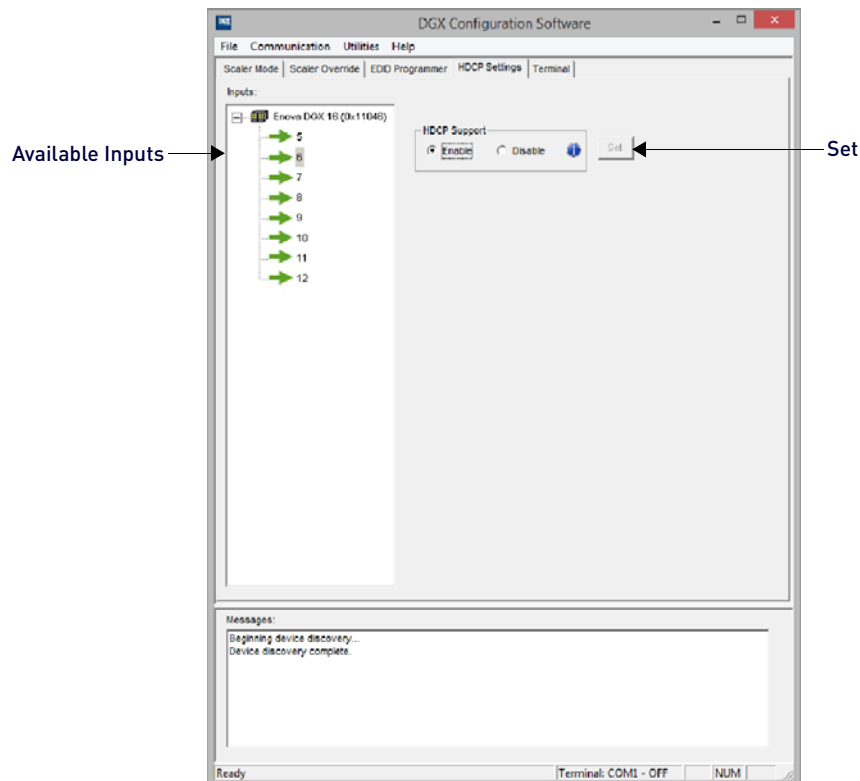

FIG. 167 HDCP Settings view
1. Select the input (or select multiple inputs) on the left (FIG. 167):